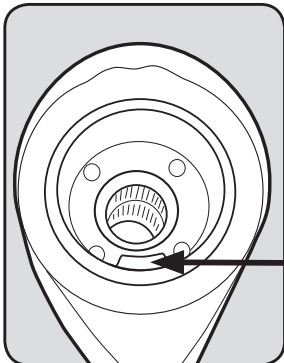
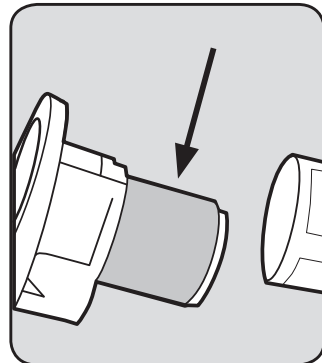

Fig. 16
Fig. 17
3. Remove the filter assembly by grasping the tab inside the filter frame. (Fig. 16) Rotate the filter frame counterclockwise and remove it from the filter assembly. Slide the foam filter off the pleated filter. (Fig. 17)